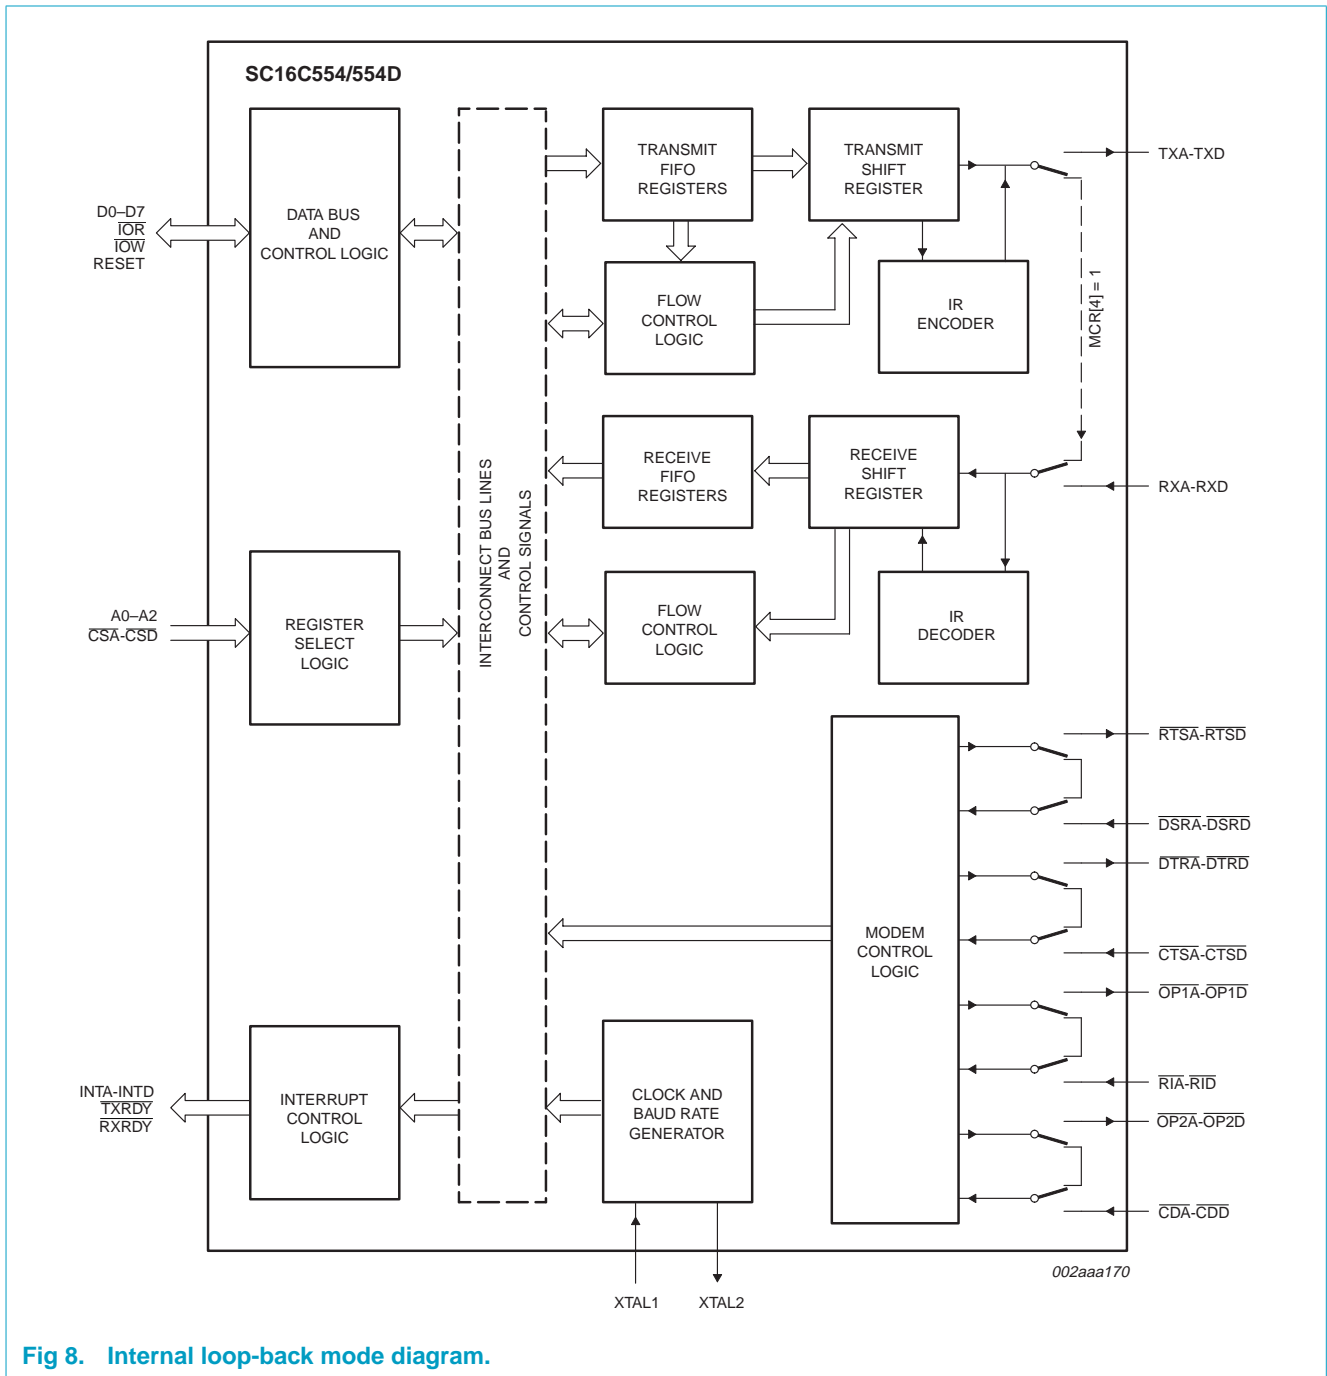

Fig 8. Internal loop-back mode diagram.
The internal loop-back capability allows on-board diagnostics. In the loop-back mode, the normal modem interface pins are disconnected and reconfigured for loop-back internally. MCR[0-3] register bits are used for controlling loop-back diagnostic testing. In the loop-back mode,  $\overline{\text{OP1}}$  and  $\overline{\text{OP2}}$  in the MCR register (bits 2-3) control the modem  $\overline{\text{RI}}$  and  $\overline{\text{CD}}$  inputs, respectively. MCR signals  $\overline{\text{DTR}}$  and  $\overline{\text{RTS}}$  (bits 0-1) are used to control the modem  $\overline{\text{CTS}}$  and  $\overline{\text{DSR}}$  inputs, respectively. The transmitter output (TX) and the receiver input (RX) are disconnected from their associated interface pins, and instead are connected together internally (see Figure 8). The  $\overline{\text{CTS}}$ ,  $\overline{\text{DSR}}$ ,  $\overline{\text{CD}}$ , and  $\overline{\text{RI}}$  are disconnected from their normal modem control input pins, and instead are connected internally to  $\overline{\text{DTR}}$ ,  $\overline{\text{RTS}}$ ,  $\overline{\text{OP1}}$  and  $\overline{\text{OP2}}$ . Loop-back test data is entered into the transmit holding register via the user data bus interface, D0-D7. The transmit UART serializes the data and passes the serial data to the receive UART via the internal loop-back connection. The receive UART converts the serial data back into parallel data that is then made available at the user data interface D0-D7. The user optionally compares the received data to the initial transmitted data for verifying error-free operation of the UART TX/RX circuits.